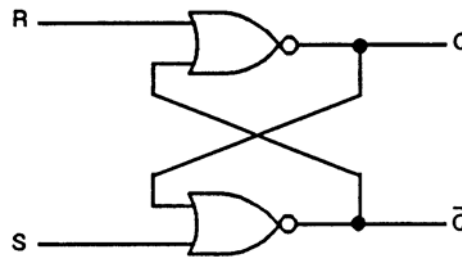

Figure Q-24. R-S Flip-Flop Construction
(3) The third statement is the indeterminate state. Meaning that there is no reliable way to determine how the output states will change if certain inputs are applied. Usually a logic circuit will employ safeguards against inputs that will cause indeterminate outputs.
(4) Now that you know how an R-S FF is supposed to function, take a look at how one can be constructed using basic gates. Figure Q-24 shows using two NOR gates to form an R-S FF.